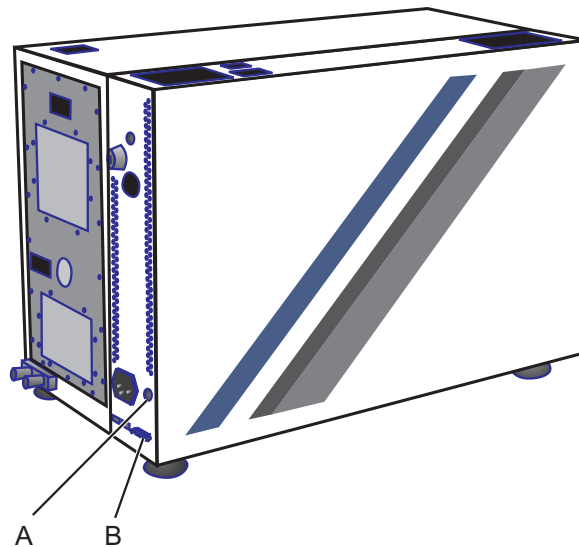

Figure 11: LASER ON indicator lamp and interlock connector
When the laser is ready for the emission of radiation or if it is emitting radiation, the LASER ON indicator lamp (see Figure 11, A) is illuminated.
- OPTex series lasers are provided with a connector ("Interlock") on the left-hand side (see Figure 11, B).